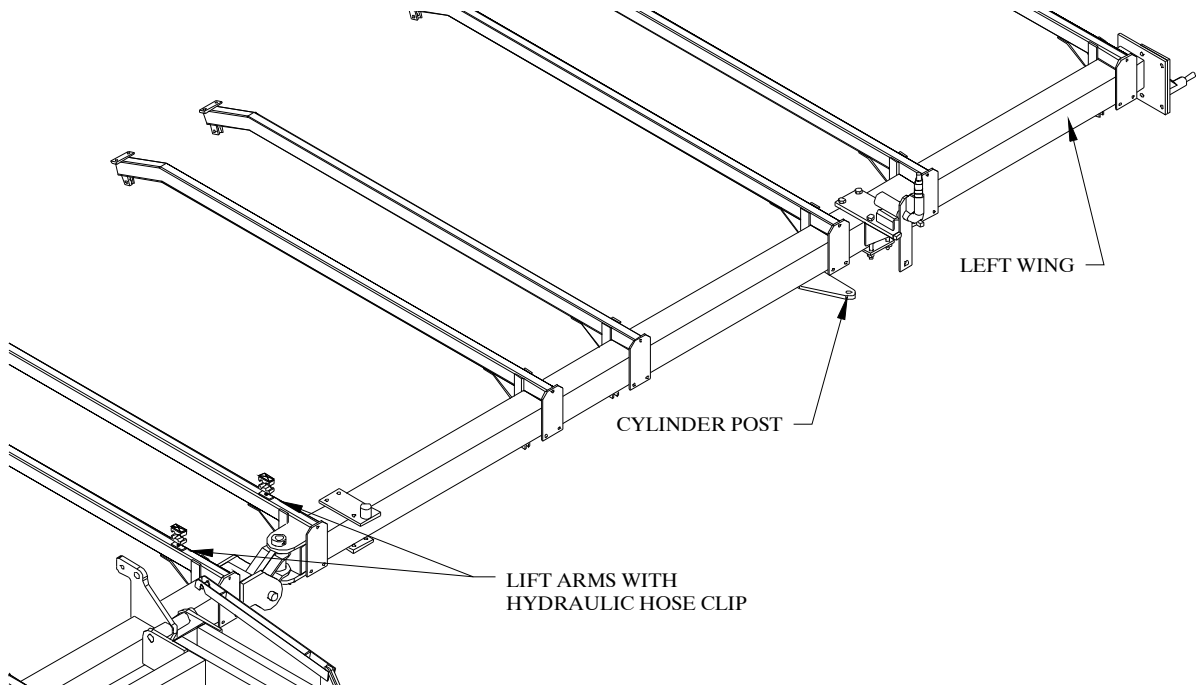

Figure 10
*NOTE: Be sure the wings are orientated correctly. Both wings are marked left hand and right hand and a visual reference can be made by looking at Figure 10.
2. Center a lift arm on each of these marks and secure using two 1/2" x 9 1/2" bolts, lock washers, and hex nuts for each lift arm. Refer to Figure 10.